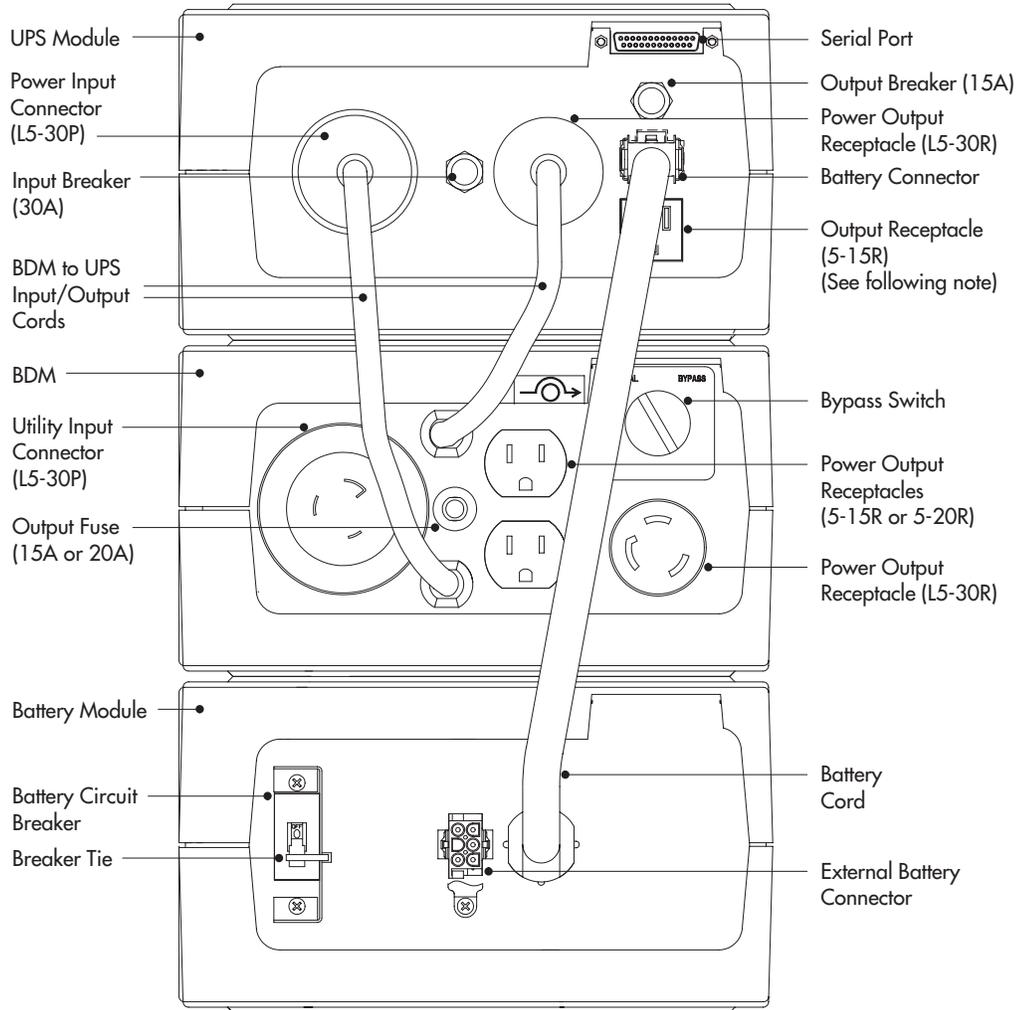

Figure 13. UPS with Plug/Receptacle BDM Rear Panel
- 1** Turn the Bypass switch on the BDM to the BYPASS position (see Figure 13). The BDM is now powering your equipment from utility power.
- 3** Plug the input and output cords of the BDM into the power connectors on the UPS as shown in Figure 13.